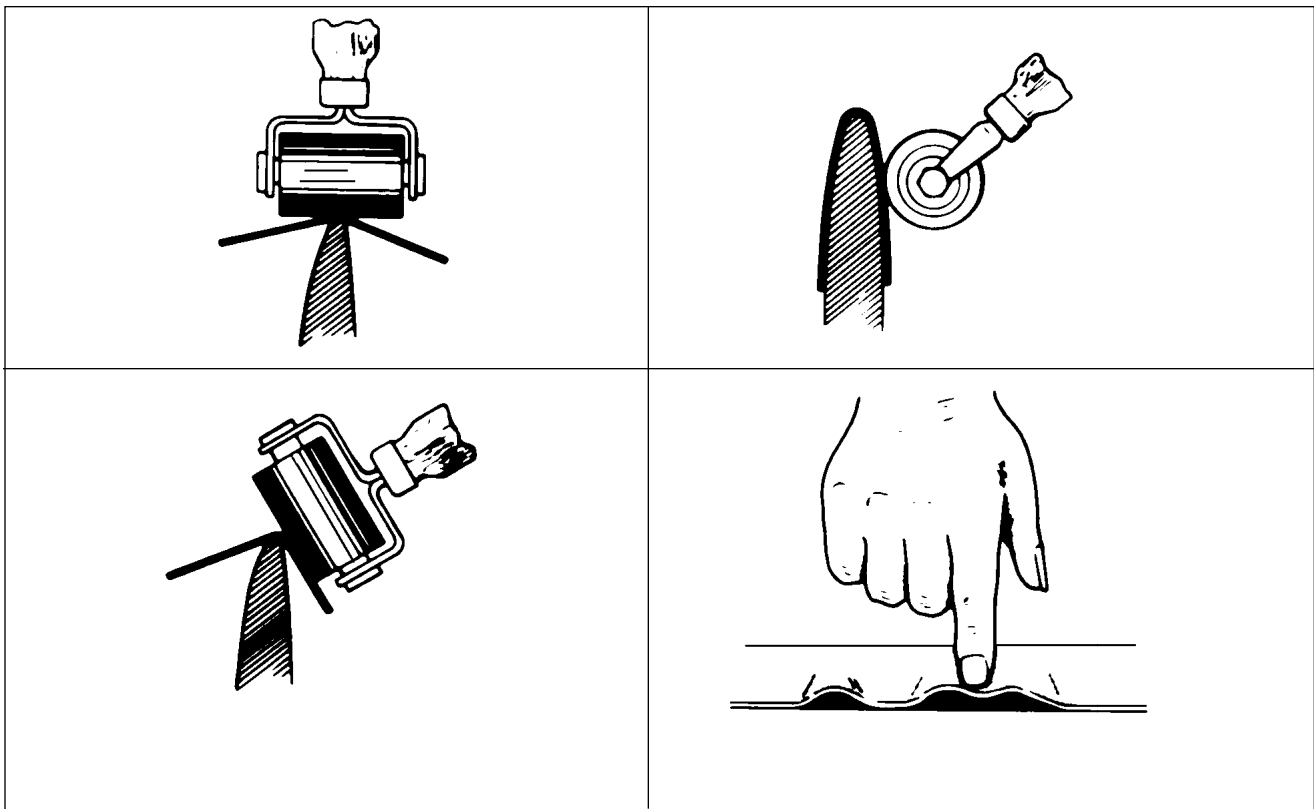

Figure 30-21. Wrinkled Deicers
6. When the deicer is correctly positioned, roll firmly along the centerline with a rubber roller. (Refer to Figure 30-21.)
WRINKLED DEICERS (Refer to Figure 30-21)